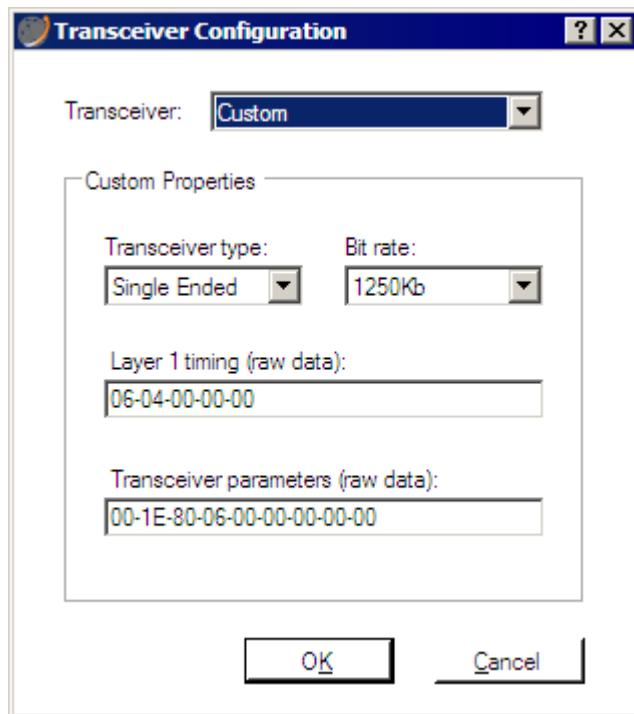

Figure 3: Transceiver Configuration dialog
7. Open the **Transceiver Configuration** dialog from **Transceiver** property, see Figure 3.
8. Define the settings as shown in Figure 3.